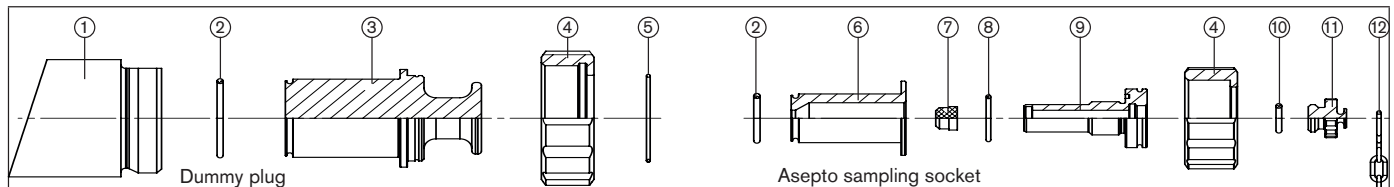

Fig. 2: Assembly of dummy plug and Asepto sampling socket Type BBS-11
- ▶ During operation and/or existing pressure, only the sampling cap (see "Fig. 2", sketch on the far right with chain) may be opened. It can be opened with just a few turns.